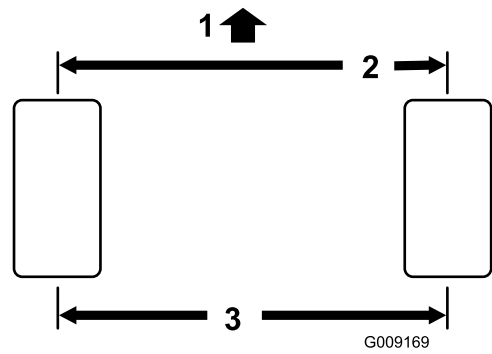

Figure 59
2. Measure the center-to-center distance (at axle height) at the front and rear of the steering tires (Figure 59). The measurement must be within 0 ± 0.12 inch (0 ± 3 mm) at the front of the tire then at the rear of the tire. Rotate the tire 90 degrees and recheck the measurement.